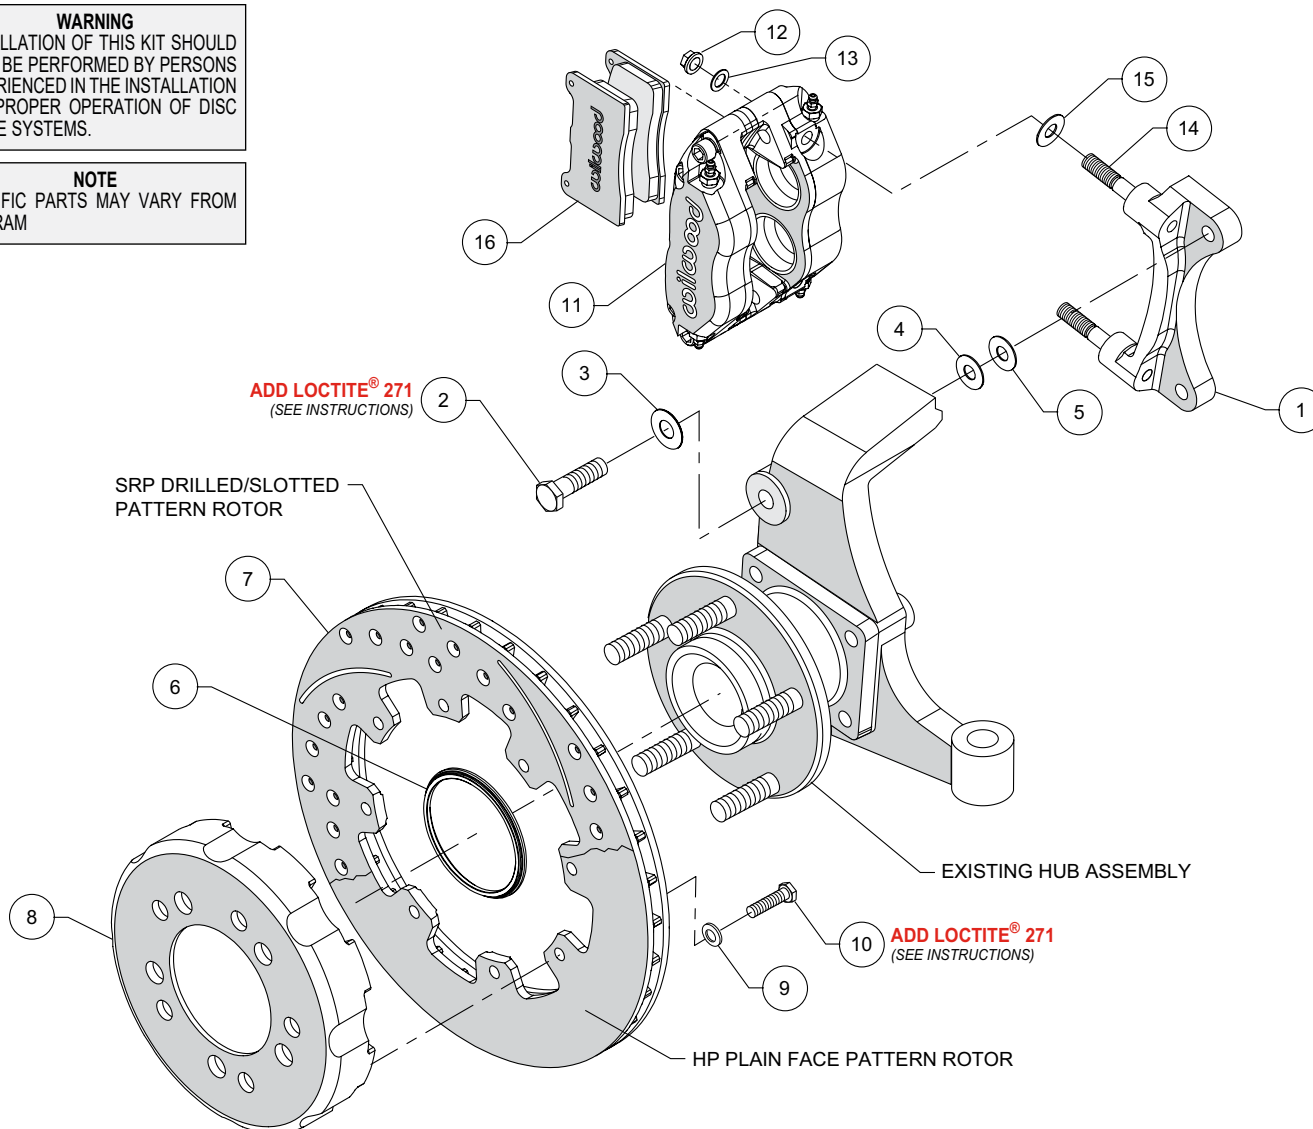
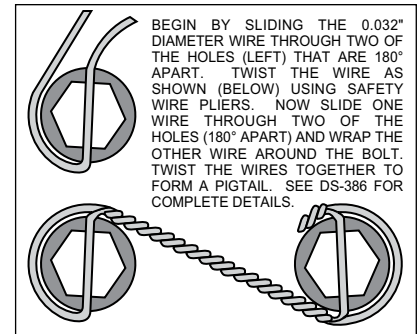

Figure 1. Typical Installation Configuration
Figure 3. Safety Wire Diagram
•The caliper mount bracket assembly (1) should be installed first with clean, dry threads on the mounting bolts. Install the bracket on the inboard side of the spindle by sliding bolt (2) through flat washer (3), and spindle ear from the outboard side of the spindle. Place two shim washers (4) between the bracket (1) and the spindle (see figure 1). The bracket must tighten squarely against the inboard side of the caliper mount bosses on the spindle body. Inspect for interference from casting irregularities, machining ridges, burrs, etc. Later, after the caliper, pad, and rotor alignment has been checked, and any necessary shims have been put in place, the mount bolts should be coated with red *Loctite*® 271 and torqued to 65 ft-lbs.
•With the larger I.D. side of the rotor (7) facing away from the hat (8), bolt the rotor (7) to the hat (8) through the backside of the rotor using washers (9) and bolts (10) provided in the configuration pictured in figure 1. Apply red *Loctite*® 271 to the bolt threads and torque to 25 ft-lb using a criss-cross pattern. For an added measure of security, the bolts may be safety wired using standard 0.032 inch diameter stainless steel safety wire as shown in Figure 3. Please refer to Wilwood's data sheet DS-386 (available at www.wilwood.com/Pdf/DataSheets/ds386.pdf) for complete safety wire installation instructions.